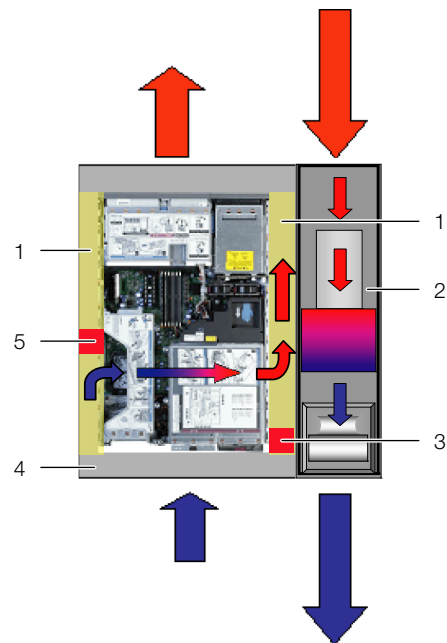

Fig. 11: Placement of foam strips for devices with sideways air throughput (top view)
■ If several devices which require sideways air throughput are included, cut out several pieces of the foam strip, as is appropriate, so that, ultimately, there is a cut-out in the foam to the left or right at the height of each such device in the server rack. Ensure that there are no gaps on the hot air side of the devices (fig. 11, item 3).
■ Attach the foam strips to the cold air side of the devices set back towards the rear (fig. 11, item 5), making sure that all fans built into the devices can draw air and that none of them are blocked.
The foam strips can be attached between the front and rear uprights of the server rack along the entire depth of the devices with sideways air throughput (fig. 11, item 1).